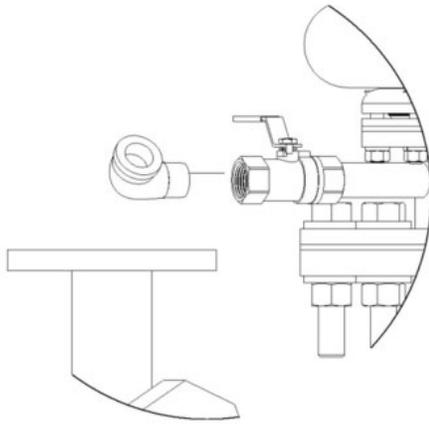

Figure 3. 90° Elbow Insert
- **Figure 3** The 90° elbow needs to be detached from the assembly quick exhaust valve (P/N 1100-0001) and installed to the ball valve prior to installing the complete assembly quick exhaust valve.